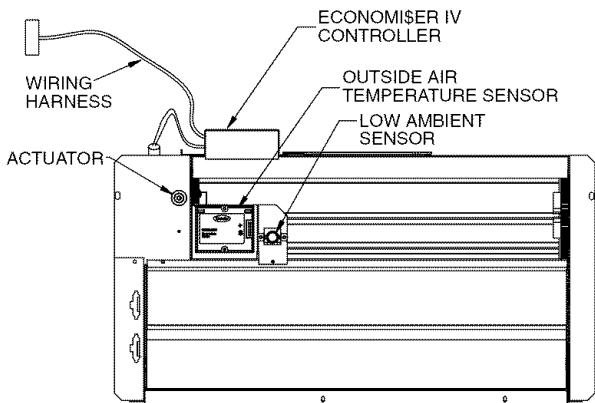
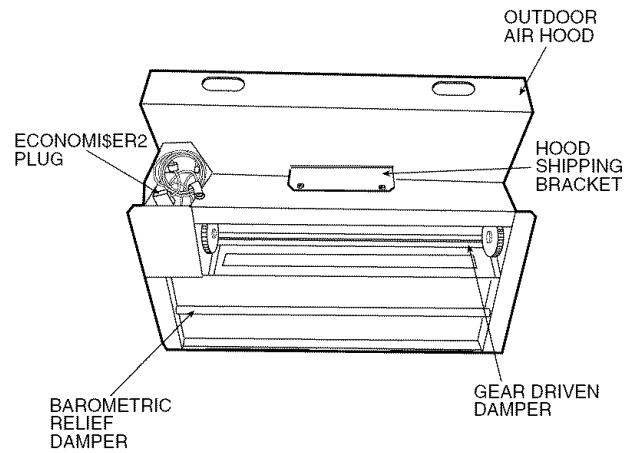
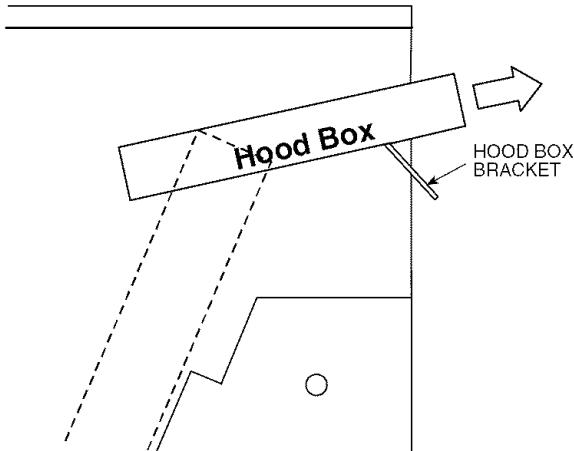

Fig. 19 — EconoMi\$er IV Component Locations
Fig. 20 — EconoMi\$er2 Component Locations
Fig. 22 — Hood Box Removal
See Fig. 19 for EconoMi\$er IV component locations. See Fig. 20 for EconoMi\$er2 component locations.
2. The box with the economizer hood components is shipped in the compartment behind the economizer. The EconoMi\$er IV controller is mounted on top of the EconoMi\$er IV in the position shown in Fig. 19. The optional EconoMi\$er2 with 4 to 20 mA actuator signal control does not include the EconoMi\$er IV controller. To remove the component box from its shipping position, remove the screw holding the hood box bracket to the top of the economizer. Slide the hood box out of the unit. See Fig. 22.
Outdoor Air Temperature (OAT) Sensor — The outdoor air temperature sensor (HH57AC074) is a 10 to 20 mA device used to measure the outdoor-air temperature. The outdoor-air temperature is used to determine when the EconoMi\$er IV can be used for free cooling. The sensor is factory-installed on the EconoMi\$er IV in the outdoor airstream. See Fig. 19. The operating range of temperature measurement is 40 to 100 F.
Outdoor Air Lockout Sensor — The EconoMi\$er IV is equipped with an ambient temperature lockout switch located in the outdoor air stream which is used to lockout the compressors below a 42 F ambient temperature. See Fig. 19.